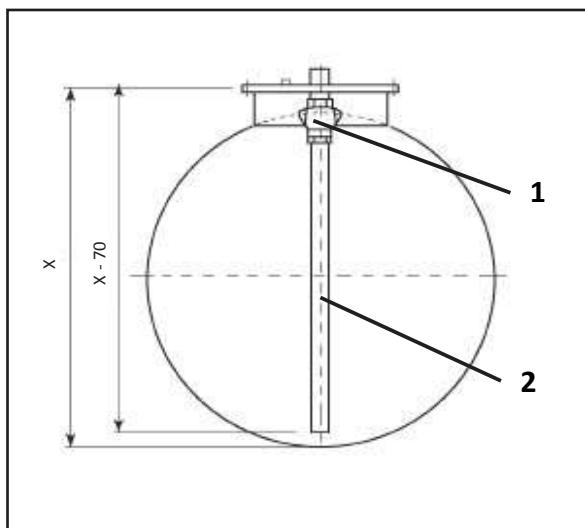

figure 1
- 3: Connect the pipe (position 2/Figure 1) to the overfill valve:
- measure distance X between the manhole (position 1/figure 1) and the tank bottom.